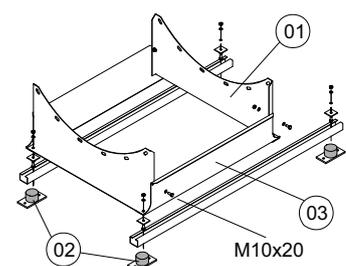

Figure 2. Support frame for AZN
The support frame consists of two mounting plates (see figure 2 item 01). Two stiffeners (item 02) are mounted between the plates with screws M10x20.
To prevent spreading of vibrations to the surroundings, anti-vibration mountings may be inserted between fan and support, and flexible connections can be fitted in the ducts before and after the fan. The connections are available as optional extras. Secure anti-vibration mountings (figure 2) in the support frame by means of bolts. Mount base plates for attachment in the foundation/floor at the bottom of the rubber element.